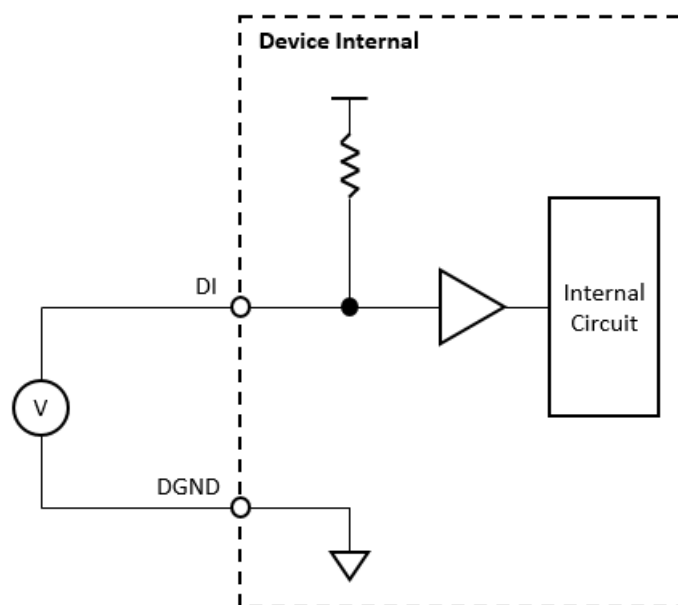

Figure 3.3 Digital input signal connection
A digital input/output (DI/O) channel can be configured by software to perform digital input measurement, which is the power-on default configuration, or digital output generation. When performing digital input measurement, the voltage logic level between the digital input (DI) terminal and the digital ground (DGND) terminal is measured. To prevent undetermined or fluctuating results when input is floating, the digital input channel is internally pulled-up. This is shown in Figure 3.3.